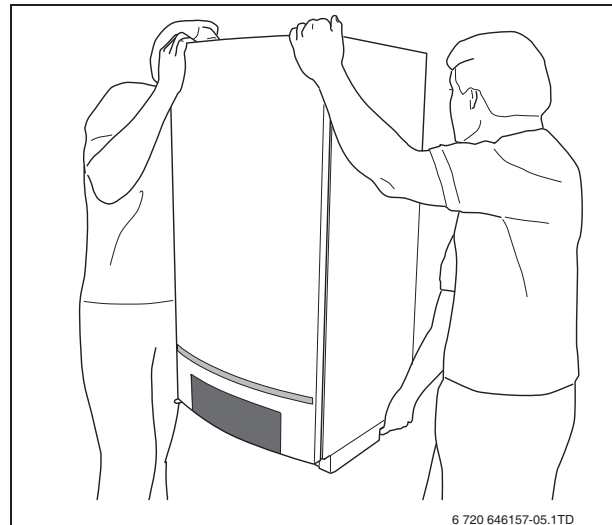

Fig. 5 Lift and carry the boiler correctly
- ▶ Always lift and carry the boiler with 2 people as shown in (fig. 5), or use a hand truck or special equipment.
- With 2 people, lift the boiler by holding it by its back and by the transport rail at its bottom and install it on the wall bracket (fig. 5, page 12).